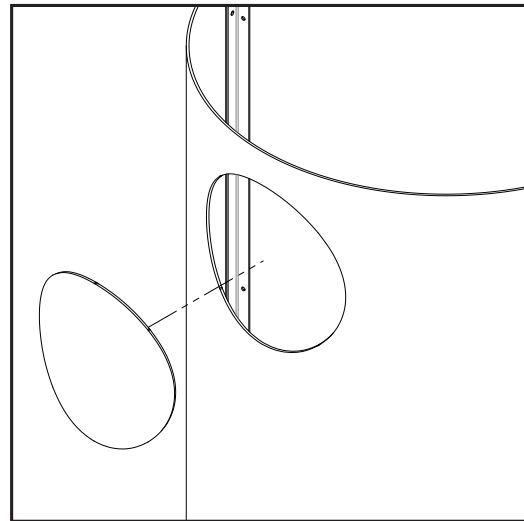

Figure 75: Rear Chassis Punchout
12. Remove the punchout from the rear chassis using a sizeable hammer (see Figure 75). Place a cloth down around the perimeter to prevent damage to the chassis in case you accidentally strike the painted surface.